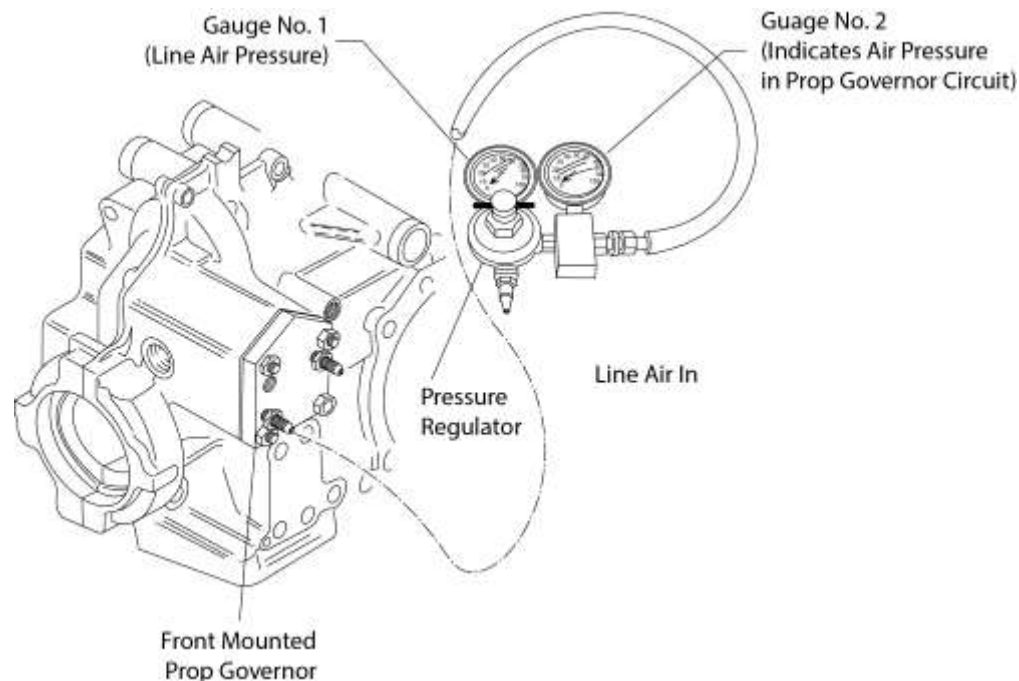

Figure 94
- (6) Apply shop air to the differential pressure regulator and adjust it to 40 psi (276 kPa) on the Gauge No. 1 (Figure 94. With the engine at operating temperature, the pressure reading on the Gauge No. 2 must read 6 to 35 psi (41 to 241 kPa), if the system is operating correctly.